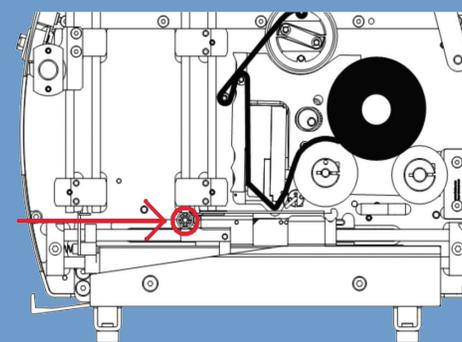

Figure 6: Push the steel roller to the right with the power off to move right.
6. To move to the right press the roller part in (fig 6) to the right